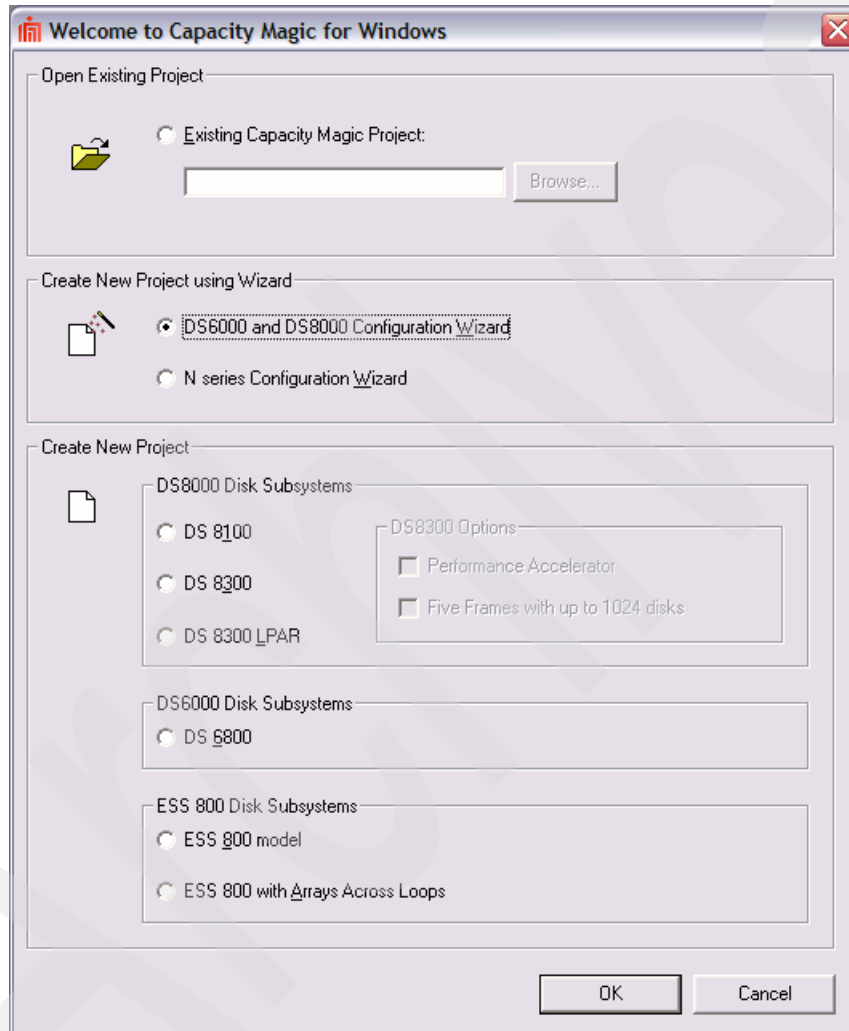

Figure 3-11 Selecting the type of storage system
2. In the Welcome to Capacity Magic for Windows window (Figure 3-11), specify the type of planned storage system and the desired way to create a Capacity Magic project. In our example, we select **DS6000 and DS8000 Configuration Wizard** and select **OK** to guide us through the Capacity Magic configuration.